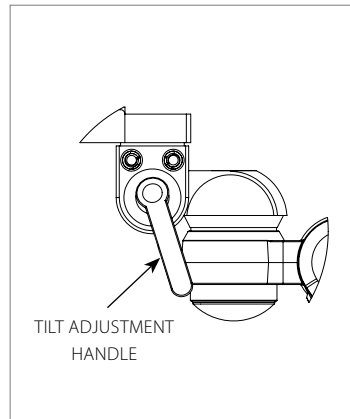

Figure 7
1. If additional tilt tension is desired, tighten the 2x **TILT TENSION SCREWS** using a 1/4" Allen Key (**Figures 7 & 8**).